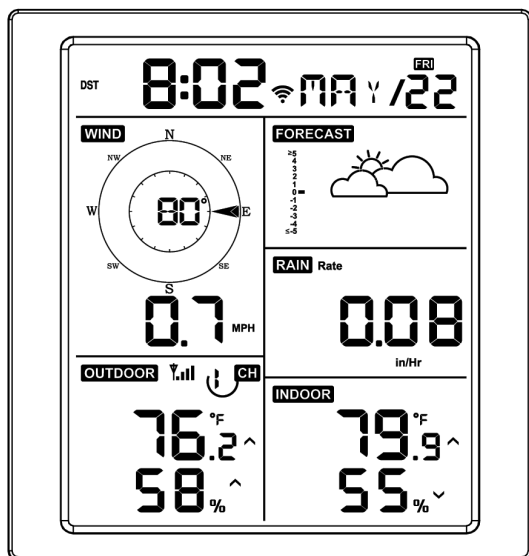
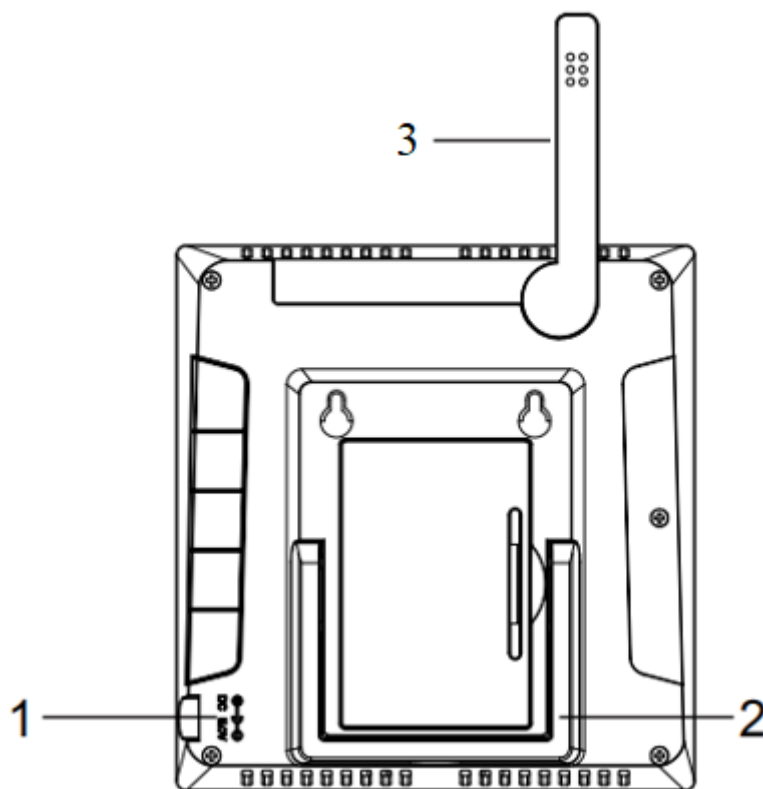
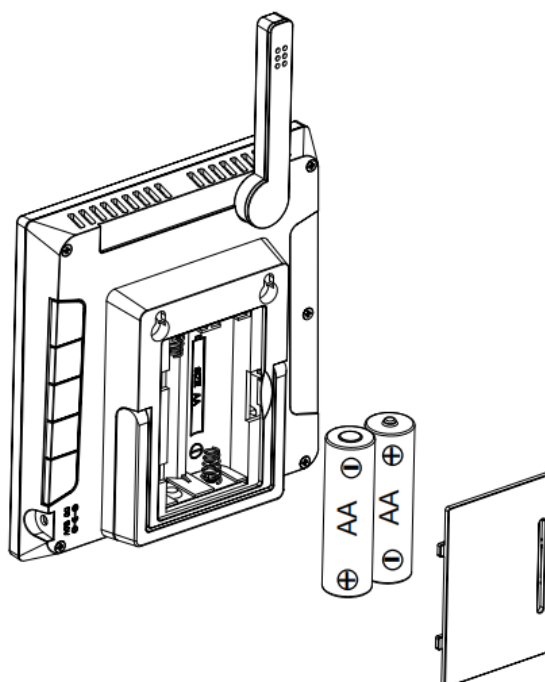

Figure 10
Figure 11
Figure 12
The front and back of the display console is shown in Figure10 and Figure 11.
- (1) A/C power port for A/C adapter part# WS-1965-AC
- (2) Unfold the desk stand and place 5 to 10 feet away from the outdoor sensor array per Figure 11.
- (3) Sensor arm containing temperature and humidity sensor.
- (4) Remove the battery door on the back of the console and insert 2 x AA Alkaline or Lithium batteries per Figure 12. Wait several minutes for the remote sensors to synchronize with the display console.